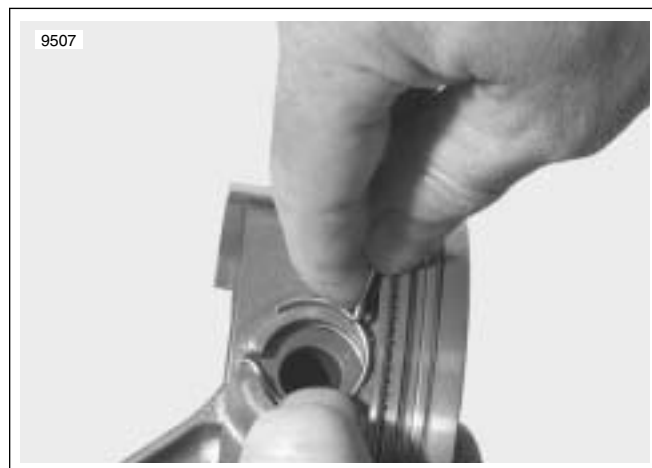

Figure 3-225. Wrist Pins and Retaining Rings
34. See Figure 3-225. Install wrist pin and wrist pin retaining rings.